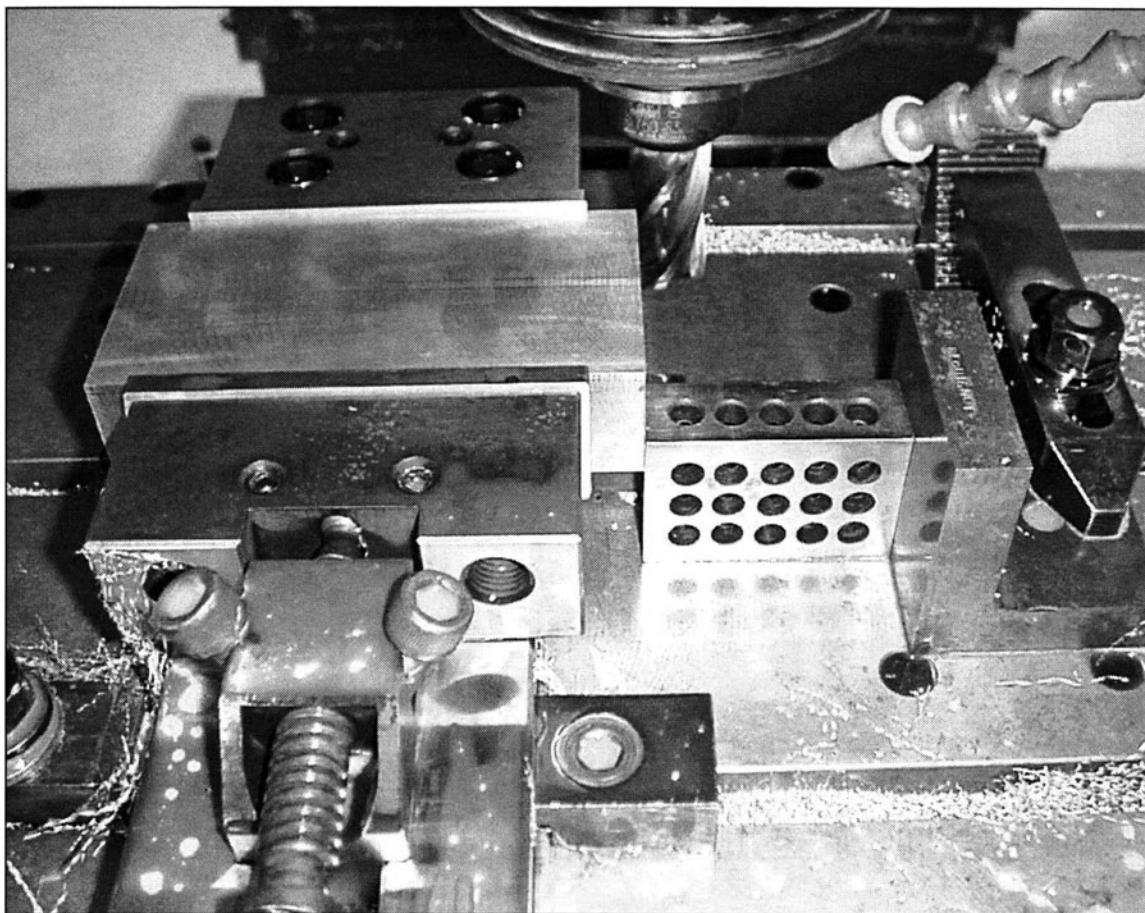

FIGURE 15-7 A 1-2-3 block is used as a removable stop so that both ends of the block can be machined in one setup.
25. *Use a stop that can be removed so that both ends of a part are accessible for machining in one setup. (See Fig. 15-7)*